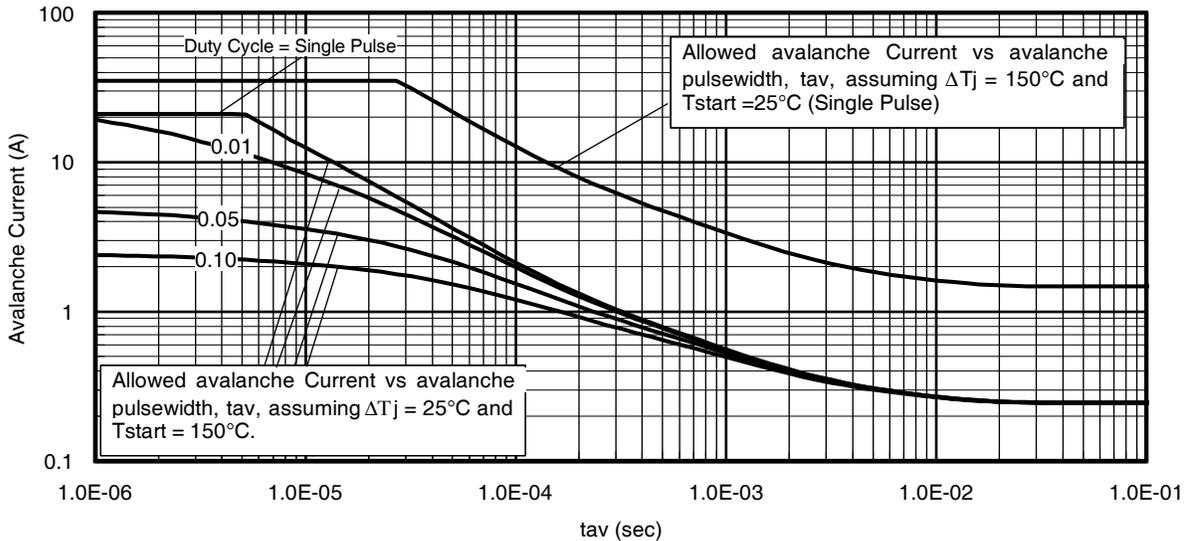

Fig 14. Typical Avalanche Current Vs. Pulsewidth
- ① Repetitive rating; pulse width limited by max. junction temperature.
- ② Starting T_J = 25°C, L = 0.51mH, R_G = 25Ω, I_{AS} = 21A.
- ③ Pulse width ≤ 400μs; duty cycle ≤ 2%.
- ④ R_θ is measured at T_J of approximately 90°C.
- ⑤ Limited by T_{Jmax}. See Figs. 14, 15, 17a, 17b for repetitive avalanche information
- ⑥ When mounted on 1" square PCB (FR-4 or G-10 Material). For recommended footprint and soldering techniques refer to application note #AN-994.
Notes on Repetitive Avalanche Curves, Figures 14, 15:
7. ΔT = Allowable rise in junction temperature, not to exceed T_{jmax} (assumed as 25°C in Figure 14, 15).